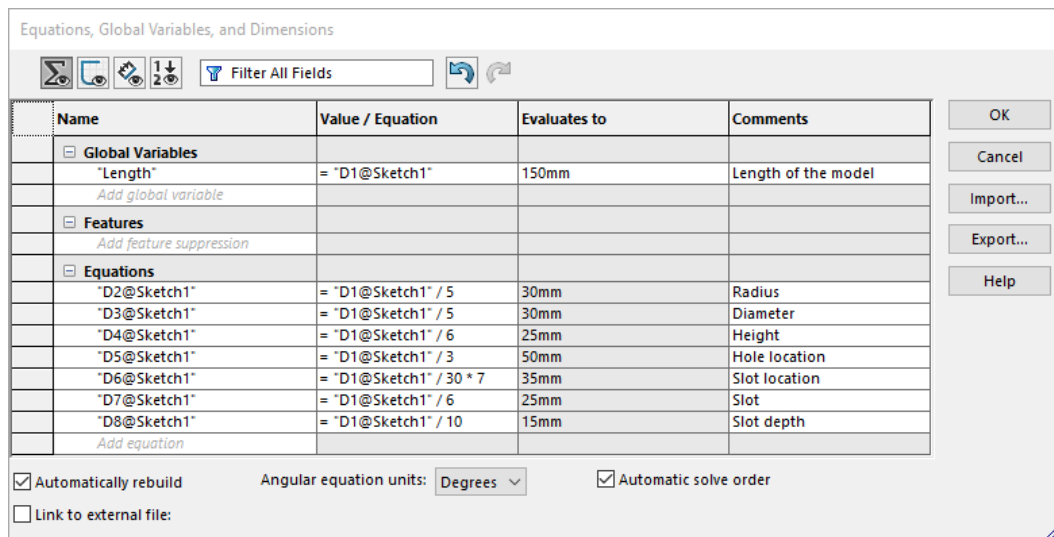

Figure 19-41 The Equations, Global Variables, and Dimensions dialog box after adding all equations
3. Click on the empty cell of the **Global Variables** node under the **Name** column and enter **Length** as the name for the global variable, refer to Figure 19-41. Next, click on the corresponding empty cell in the **Value / Equation** column and select the dimension with value **150** from the drawing area. Now, add a comment to the global variable added in the respective cell under the **Comments** column.
14. Resize the **Equations, Global Variables, and Dimensions** dialog box, if required. The dialog box after adding all the equations is shown in Figure 19-41.